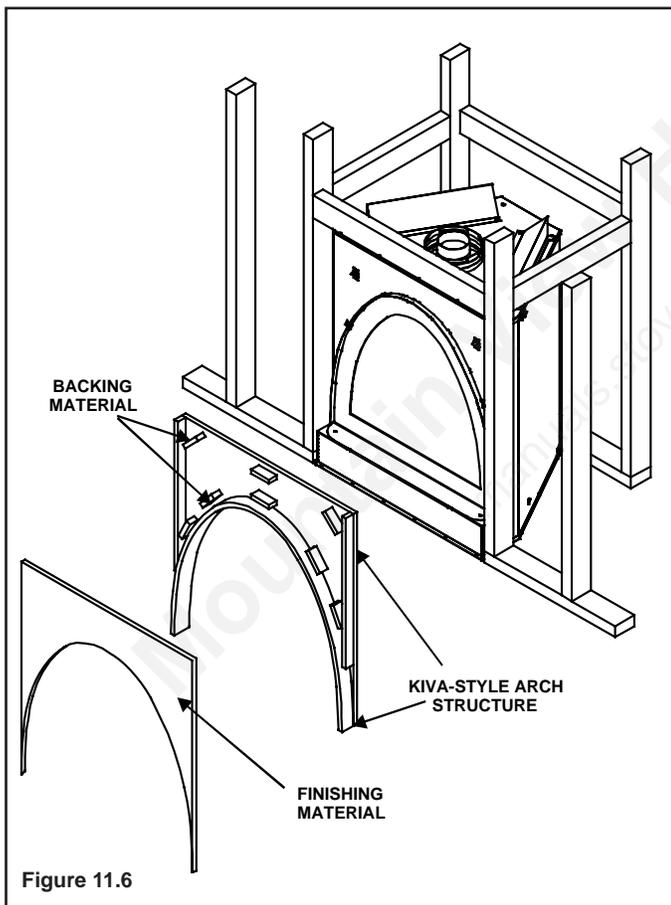

Figure 11.6
- A template is provided on unit shipping carton. Simply cut along the line and use as a template when constructing kiva-style arch (see Figure 11.6).